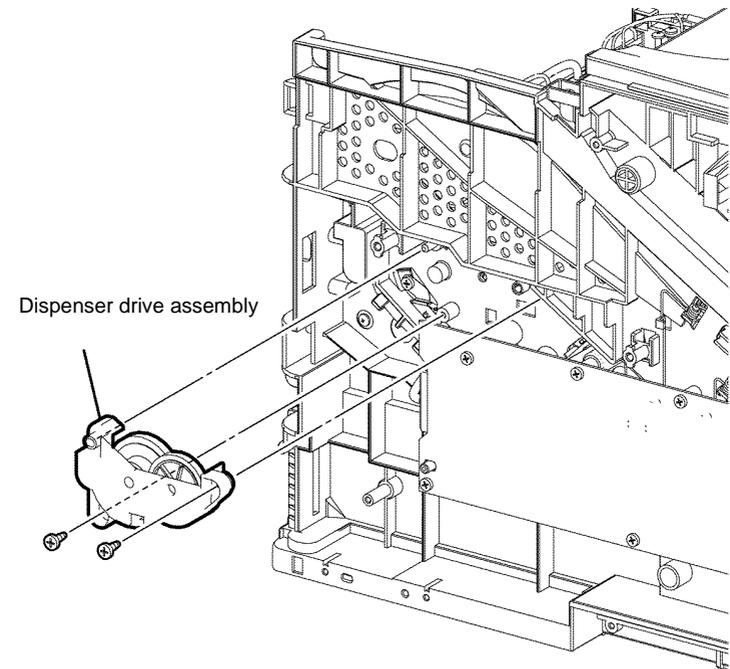

Figure 3 Dispenser drive assembly removal
- Remove two screws (silver, tapping, 10mm), that fix the dispenser drive assembly, release one boss, then remove the dispenser drive assembly, Figure 3.